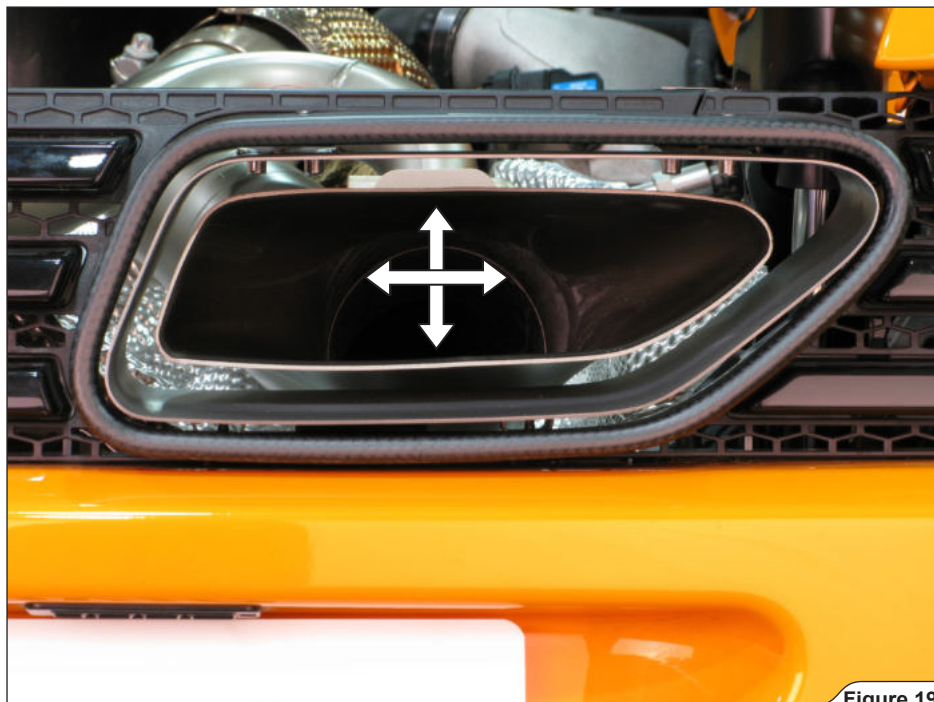

Figure 19
- Adjust and center the muffler in respect to the tail pipes and tighten the muffler's rear brackets and clamps to the specified torques (**Figure 19, 20, 21**).